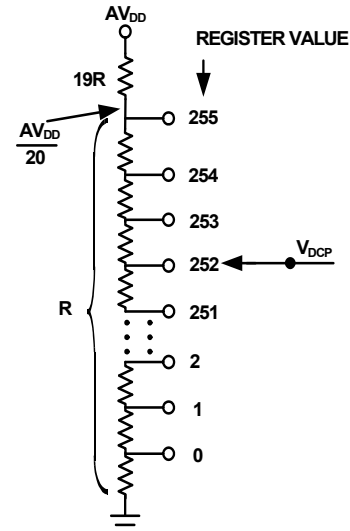
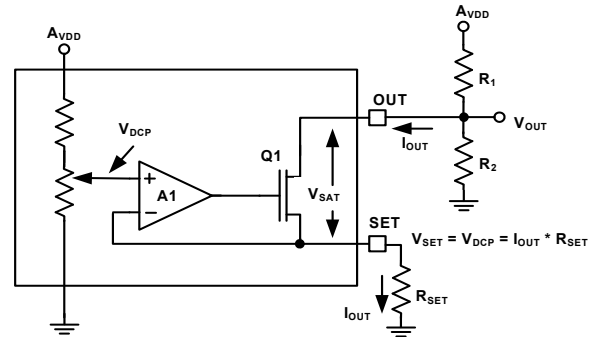

FIGURE 4. SIMPLIFIED SCHEMATIC OF DCP
FIGURE 5. CURRENT SINK CIRCUIT
**Electrical Specifications** Test Conditions: VDD = 3.3V, AVDD = 18V, RSET = 5k $\Omega$ , R1 = 10k $\Omega$ , R2 = 10k $\Omega$ , (See Figure 5). Typical values are at TA = +25°C. **Boldface limits apply over the operating temperature range, -40°C to +85°C.**
**Electrical Specifications** Test Conditions:  $V_{DD} = 3.3V$ ,  $AV_{DD} = 18V$ ,  $R_{SET} = 5k\Omega$ ,  $R_1 = 10k\Omega$ ,  $R_2 = 10k\Omega$ , (See Figure 5). Typicals are at  $T_A = +25^\circ C$ . **Boldface limits apply over the operating temperature range,  $-40^\circ C$  to  $+85^\circ C$ . (Continued)**
The ISL24202 uses a digitally controllable potentiometer (DCP), with 256 steps of resolution (Figure 4) to change the current drawn at the OUT pin, which then changes the voltage created by the  $R_1$  -  $R_2$  resistor divider (Figure 5). The OUT voltage can then be buffered by an external amplifier (A2) to generate a buffered output voltage ( $V_{COM}$ ) capable of driving the  $V_{COM}$  input of an LCD panel. The amount of current sunk is controlled by the setting of the DCP, which is recalled at power-up from the ISL24202's internal EEPROM. The EEPROM is typically programmed during panel manufacture. As noted in the "Electrical Specifications" section on page 4, the ISL24202 requires a minimum  $AV_{DD}$  voltage of 10.8V for EEPROM programming, but will work in normal operation down to 4.5V after the EEPROM has been programmed, with no additional EEPROM writing.
The DCP controls the voltage that ultimately controls the SET current. Figure 4 shows the relationship between the register value and the DCP's tap position. Note that a register value of 0 selects the first step of the resistor string. The output voltage of the DCP is given in Equation 1:
Figure 5 shows the schematic of the OUT current sink. The combination of amplifier A1, transistor Q1, and resistor  $R_{SET}$  forms a voltage-controlled current source, with the voltage determined by the DCP setting.